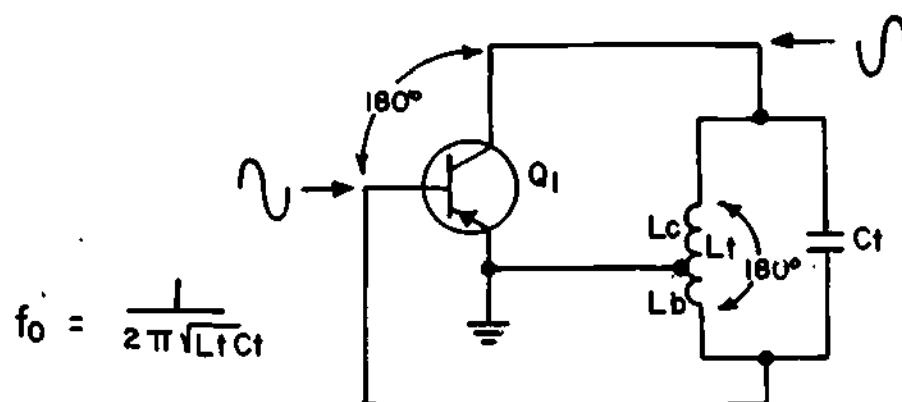

Figure 5
9. Recall that the function of an oscillator is to produce a constant amplitude, stable output signal. Remember that unless feedback is regenerative, damping of the tank oscillations will occur. If the feedback is exactly in-phase, little feedback is needed to overcome circuit losses and sustain oscillation. A difference of a few degrees either way will still allow the circuit to continue to oscillate. Of course, the amplitude of the feedback necessary to sustain oscillation is much less when the feedback is in phase. The schematic shown in Figure 5 is the AC equivalent of a Hartley oscillator.
The amount of feedback provided by the Hartley oscillator shown in Figure 5 depends on the